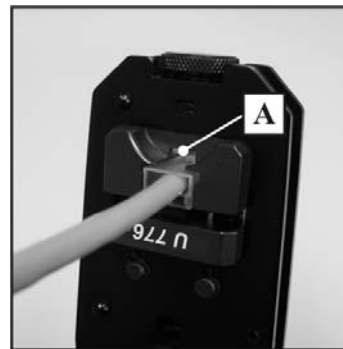

Fig.3.
- ❑ After cable and microplug have been prepared, open handtool and insert microplug assembly into the opening of the dies set (as shown on Fig.3.) until plugs' locking tab (A) snaps into place. Check if microplug is properly positioned in the die set and slowly close the tool completely until ratchet mechanism is released. Press locking tab (A) on the microplug and remove crimped connection from the die set.